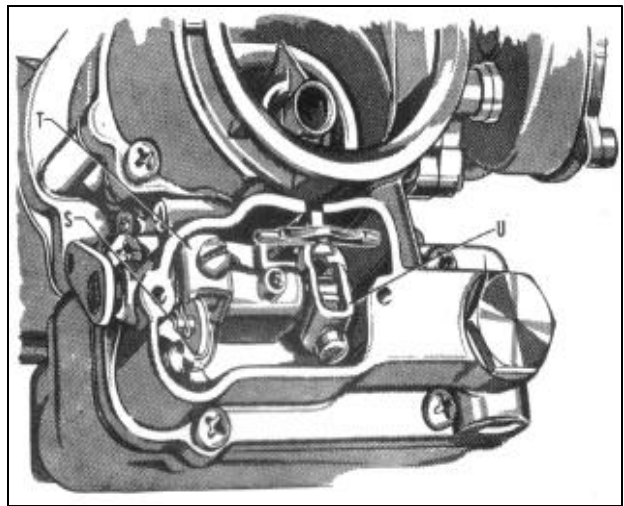

FIGURE 81
17. Install pump connector link (S), Figure 81 in outer hole of pump arm and install hair pin clip. Insert the lower end of pump connector link in hole in plunger shaft. Hold arm (R) in place and press shaft through arm. Hold metering rod arm (U) with lip extending through slot in vacuum piston link and press shaft in place. Tighten pump arm (T) screw and metering rod arm (U) screws.